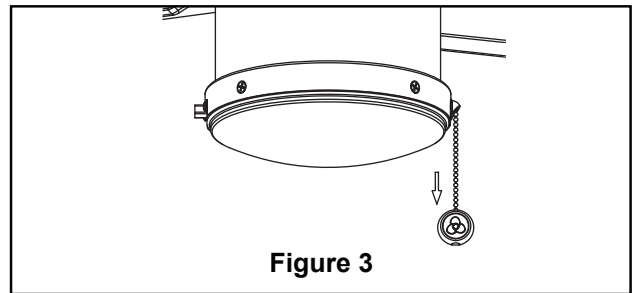

Figure 3
- 3. Securely attach 3-pin connector and 2-pin connector from motor assembly to wiring harness socket within switch cover assembly. (Figure 3)
3. Check the operation of the fan by gently pulling on the fan pull chain. (Figure 3)